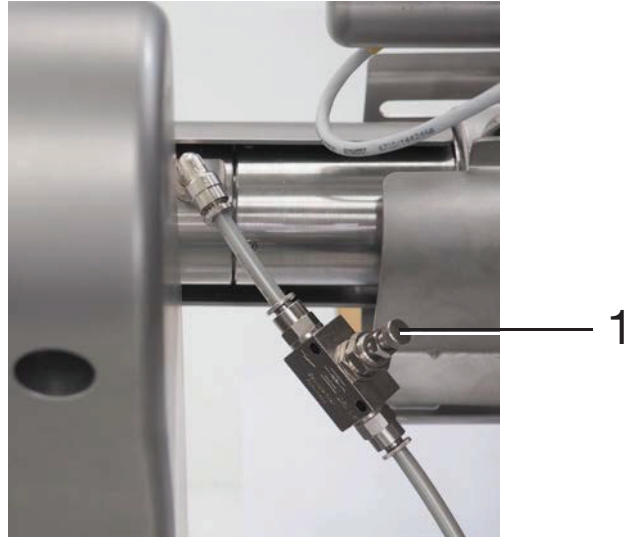

Fig. 5-22 1 Throttle
- Use the throttle (1) to set the speed at which the swirl brake moves back towards the separator. (Fig. 5-22)